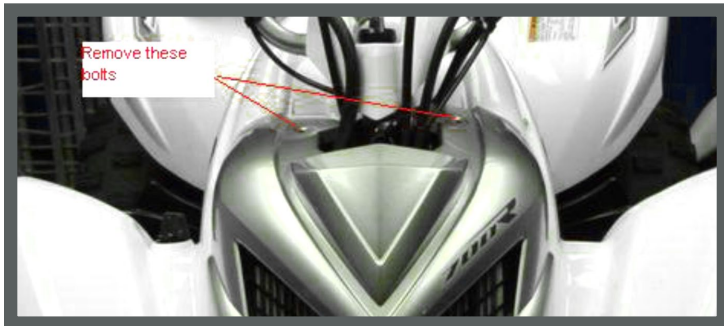

Figure 1
2. Remove the bolts holding the **Plastic Front Radiator** cover on. (See Fig 1)